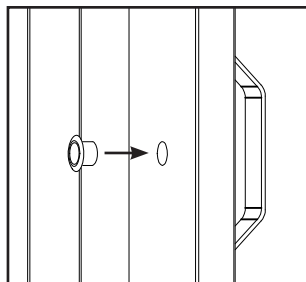

Figure 6. Pre-drilling for Finger Pull
2. Press finger pull into place as shown in figure 6